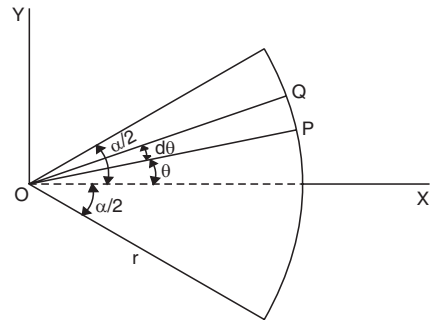

Fig. 4.33
**Example 4.12.** Determine the c.g. of the area of a sector of angle  $\alpha$  of a circle of radius  $r$  as shown in Fig. 4.33.
**Sol.** Refer to Fig. 4.33.